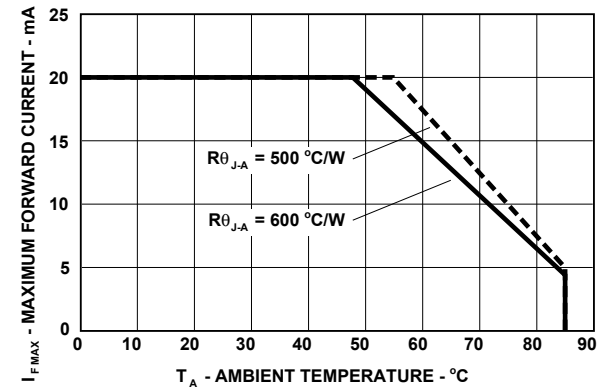

Figure 4. Maximum DC Forward Current vs. Ambient Temperature.
The derating curve, Figure 4, is a function of drive current, T_{JMAX} and $R\theta_{J-A}$. Typically derating curves are given from two thermal resistance junction-to-ambient conditions, $R\theta_{J-A} = 500^{\circ}C/W$ (dashed line) and $R\theta_{J-A} = 600^{\circ}C/W$ (solid line). These values are based on the different PCB materials as the thermal resistance pc-to-ambient will be different. The derating curves are lines of T_{JMAX} with slopes equal to the specific maximum $R\theta_{J-A}$ values indicated, intersecting the temperature axis at the maximum LED junction temperature point with zero current. Operation of the LED device at a particular drive current should be at or below a derating curve with a thermal resistance-to-ambient at or less than the maximum value indicated for that curve.
In order to determine the derated drive conditions from the datasheet for an elevated ambient temperature, the value for $R\theta_{J-A}$ must be determined. Once the value for $R\theta_{J-A}$ has been established, the required current derating can be determined for safe operation at the elevated temperature directly from Figure 4. The basic design steps are:
Step 3: From Figure 4, the maximum allowable DC forward current at $T_A (60^\circ\text{C})$ is 17mA.